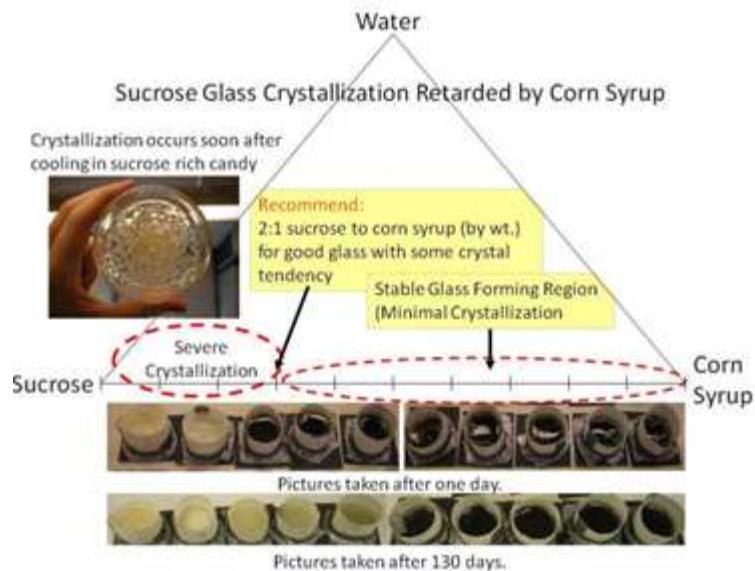

Figure 4. Water-Sugar-Syrup ternary diagram. (Courtesy of Lehigh University Glass Laboratory)
(1) Vary the water-sugar-corn syrup ratios in your starting solution and observe the results. If time permits, have students create a “sugar solution ternary diagrams” like Figure 4.